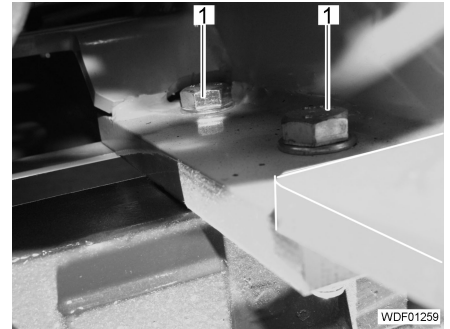

Fig. 304 Rear axle attachment
- Unscrew 2 screws (Fig. 304,1) on each side of the rear axle.